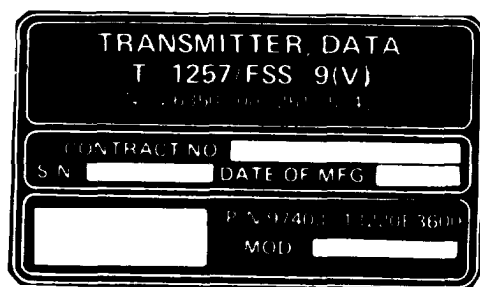
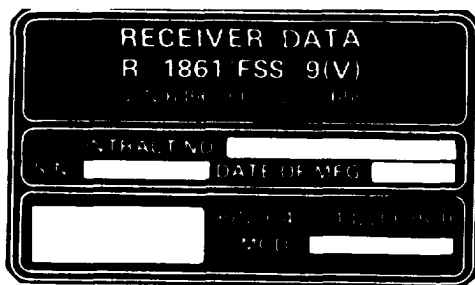

Figure 1-4. Identification Plate, Transmitter
Figure 1-5. Identification Plate, Receiver
a. Identification Data. An identification plate is mounted on the side of the Data Transmitter (fig. 1-4) and the Data Receiver (fig. 1-5).
(1) Transmitter.